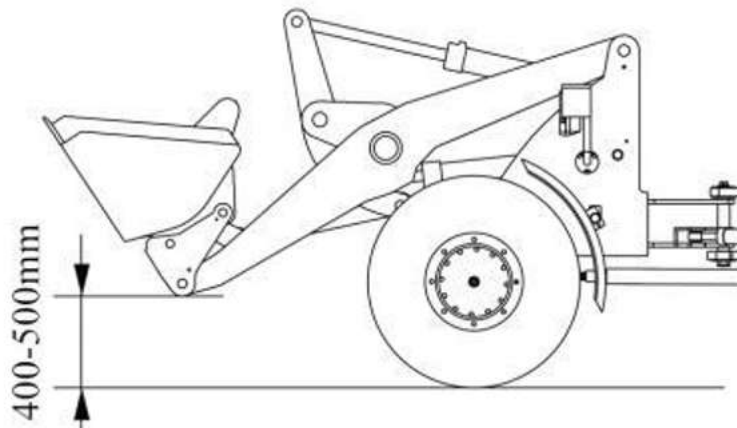

Figure 3-15 Driving status
6)When driving on flat ground, adjust height of the working device so that lower end of boom is 400mm to 500mm above ground, as shown in Figure 3-15.